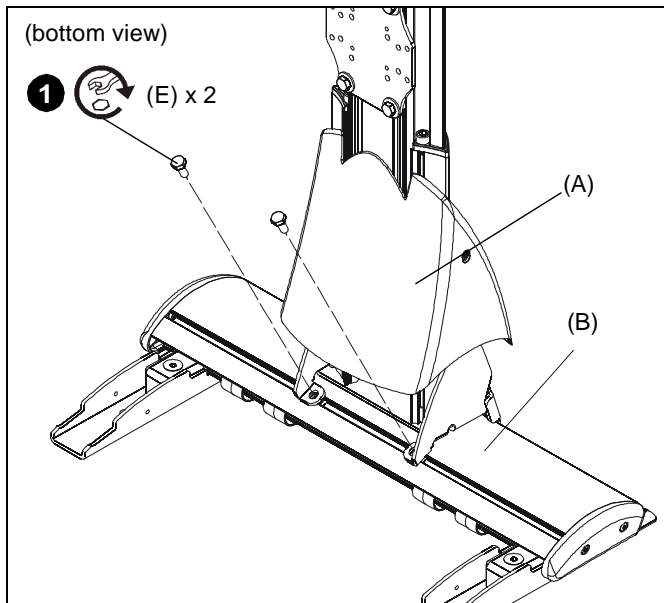

Figure 12
3. Install two 1/4-20 x 5/8" hex head bolts (E) through holes on short throw projector arm (A) and into sliding nuts on mounting bracket (B). **DO NOT TIGHTEN SCREWS AT THIS POINT!** (See Figure 12)
7. Tighten two bolts installed in Step 3. (See Figure 12)